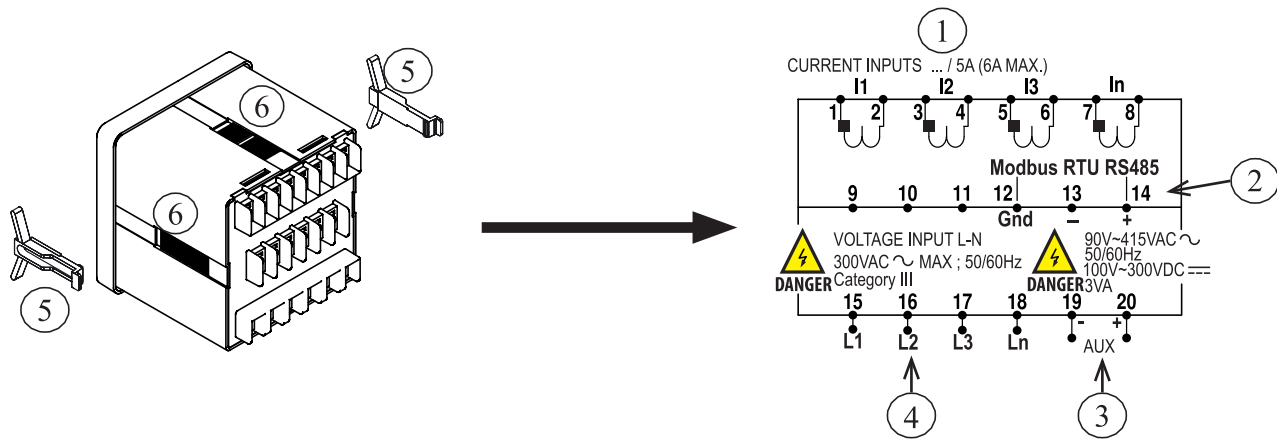

Figure 1: Parts of power meter
b) Insert the power meter through the hole and slide in the retainer clip along the slots on left and right sides or bottom and top sides of the power meter until the device is tightly secured on the switchgear panel. The orientation of the retainer clips is shown in Figure 1.